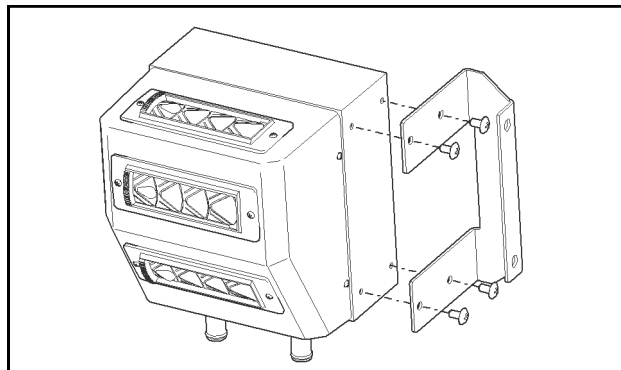

Fig. 20.1 (Pre-Assemble Heater to Bracket)
- 20.1 Pre-assemble the heater bracket onto the heater using the screws already installed on the side of the heater. See Figure 20.1. Tighten hardware.